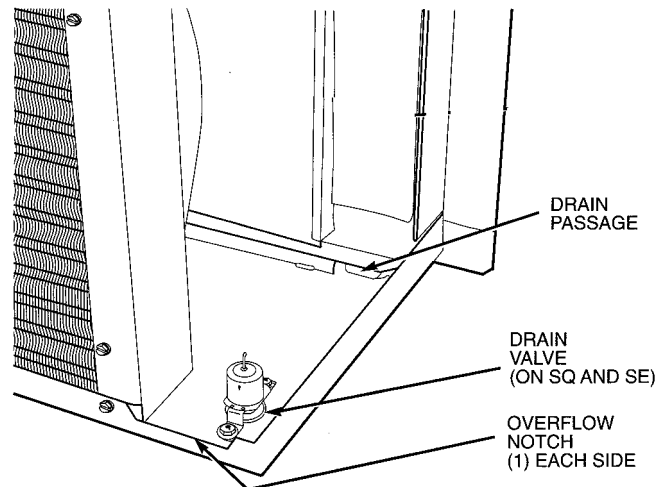

FIGURE 29 — BASEPAN SECTION
6. Thoroughly clean the basepan and drain passages by rinsing with clean water. Be sure all debris is removed from the drain valve. See Figure 29.